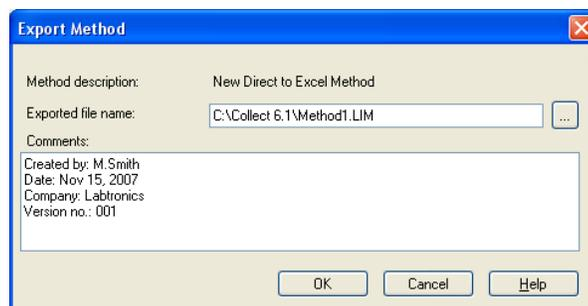

Figure 3.17: Export Method
3. An [Export Method] dialog box similar to the example shown in Figure 3.17 will appear.